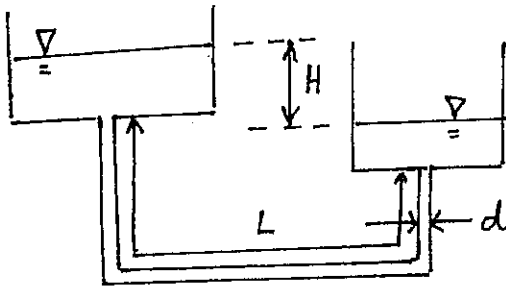

FIGURE 4
- d) A pipeline leads from one overhead tank to another as shown in Figure 4. The difference in water levels of the two tanks is H while the pipeline has a length L , a diameter d and an equivalent roughness of k . Explain how you would use this information and the Moody diagram to calculate the discharge in the pipeline. Note that you have only to explain the method, not solve the problem completely.